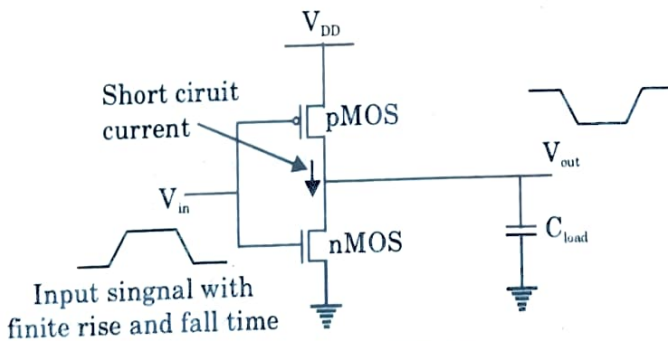

Fig. 4.13.1.
1. If a CMOS inverter is driven with input voltage waveforms with finite rise and fall times, both nMOS and pMOS may conduct simultaneously for a short amount of time, forming direct current path between power supply and the ground as shown in Fig. 4.13.1.